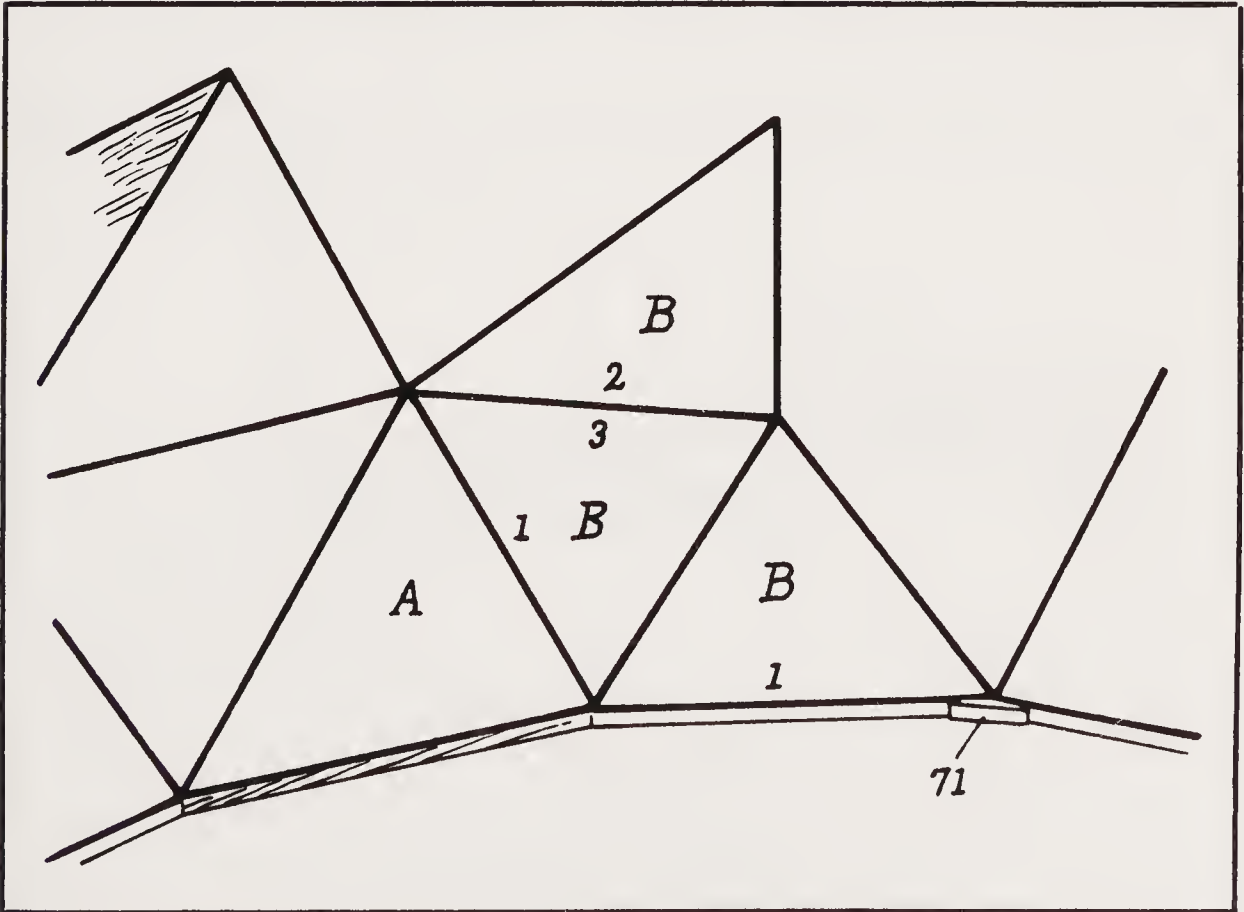

Fig. 2-77. Attaching B sections to A sections. Bolt side one of a B triangle to this A triangle (courtesy of Peter Reimuller Co.).
- ☐ Attach another "B" triangle to this "B" triangle with side one resting on the base and with the right corner of the triangle next to the #71 base tie piece (Fig. 2-77).